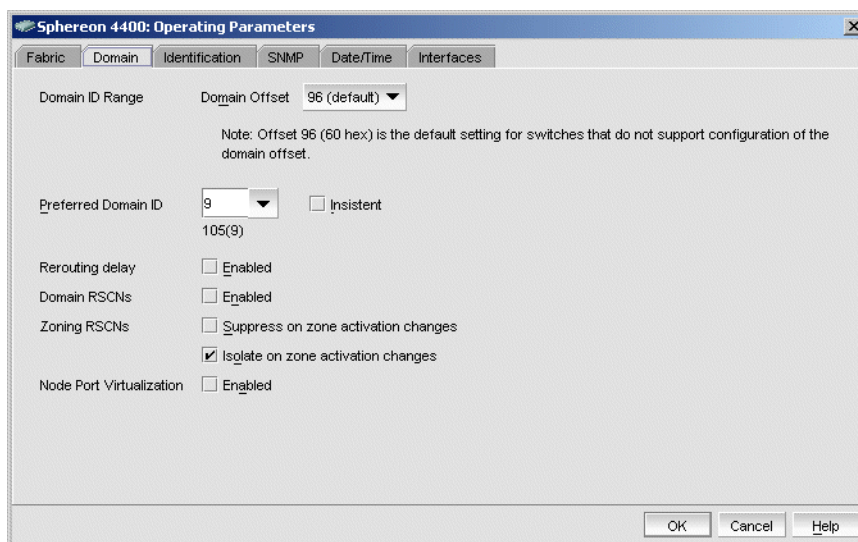

Figure 2-29 Configure Switch Parameters Dialog Box
3. Click the *Domain* tab (Figure 2-29).